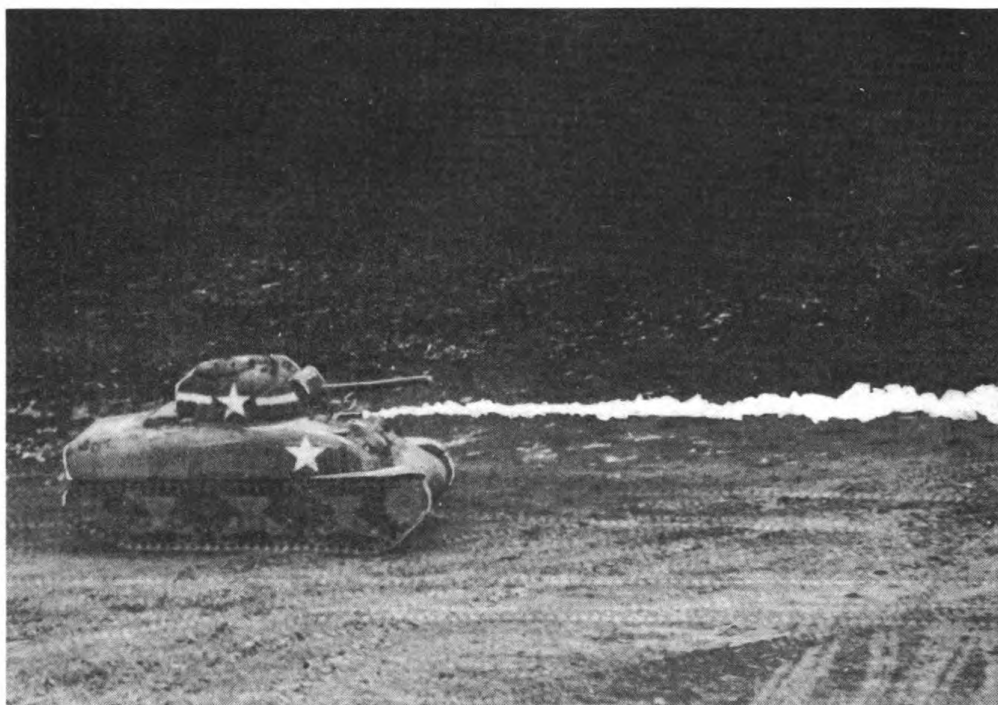
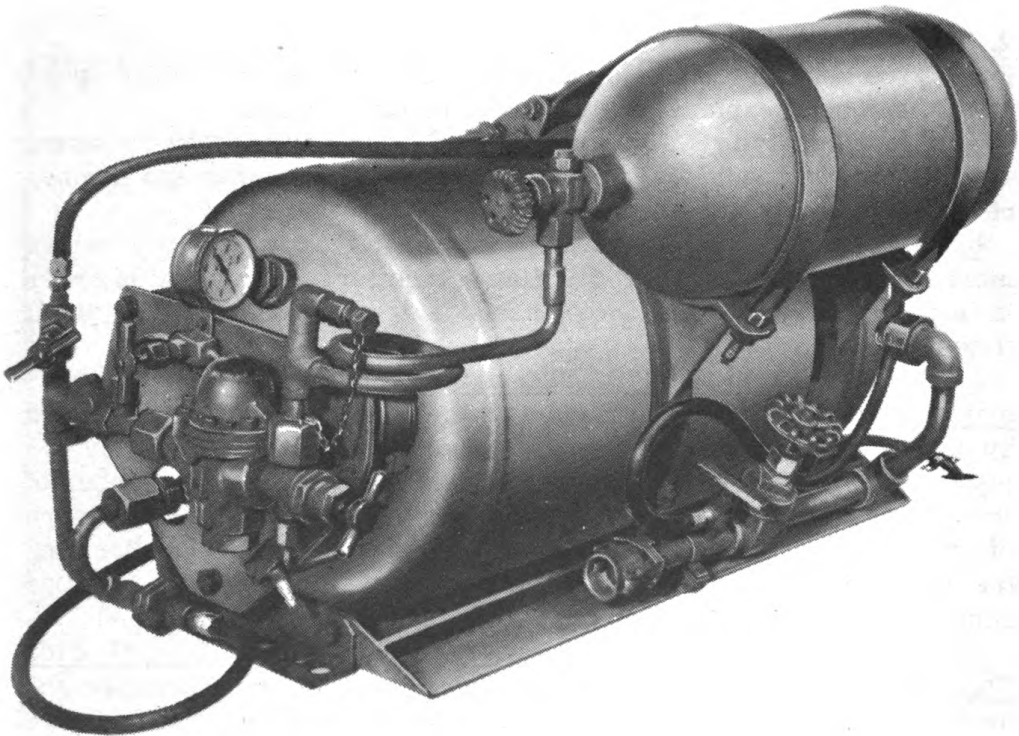

Fig. 1. Medium tank with flame thrower M3-4-E6R3 installed.
Fig. 2. Sponson fuel group (tank unit, fuel, mechanized flame thrower, M3, assembly).
a. Flame thrower. The M3-4-E6R3 mechanized flame thrower (fig. 1) consists of three main groups: the sponson fuel group (tank unit, fuel, mechanized flame thrower, M3, assembly) (fig. 2), the transmis-